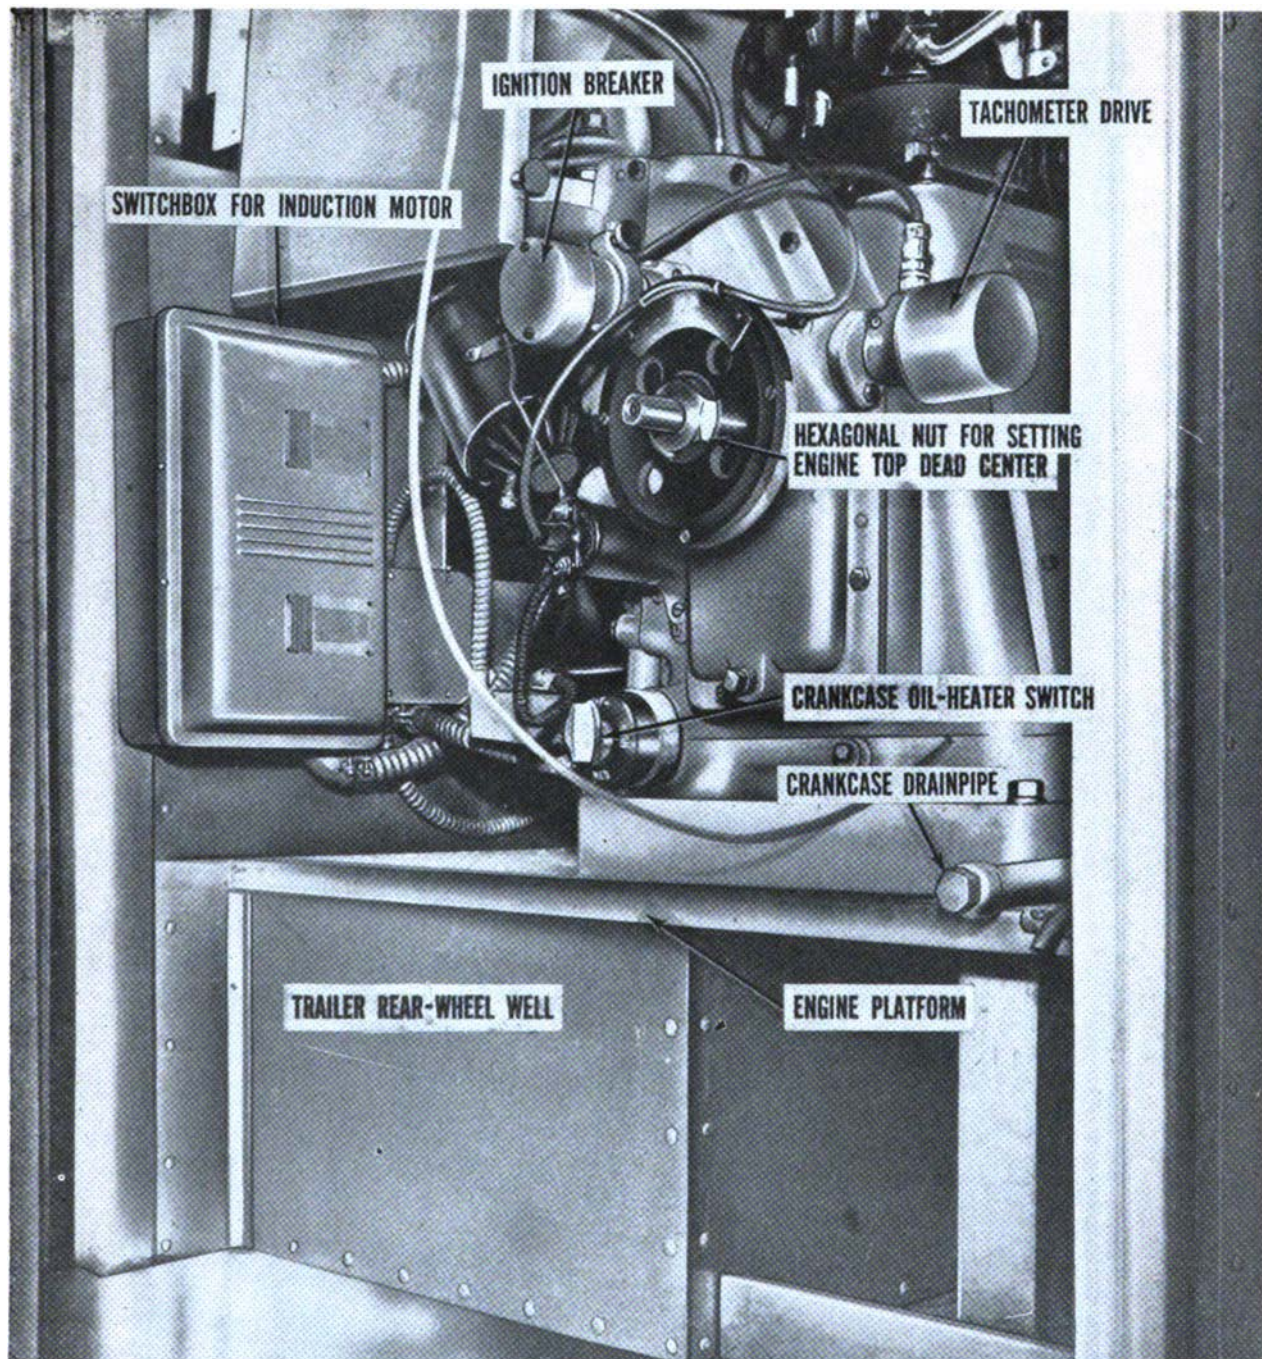

Figure 56. Modified knock engine, lower section.
- (5) *Knock-intensity instruments.* The modified knock engine is equipped with a Phillips detonation meter (model 501-A) and, in place of the bouncing pin, a Lane-Wells pickup.
- (6) *Crankcase and lubricants.* The crankcase drainpipe (fig. 56) has been lengthened and brought to the front of the engine to facilitate drainage.
- (7) *Power-absorption unit.* The synchronous 2-speed, 220-volt, 3-phase induction motor has been modified and mounted on the body of the engine, and equipped with a special starter-relay box.